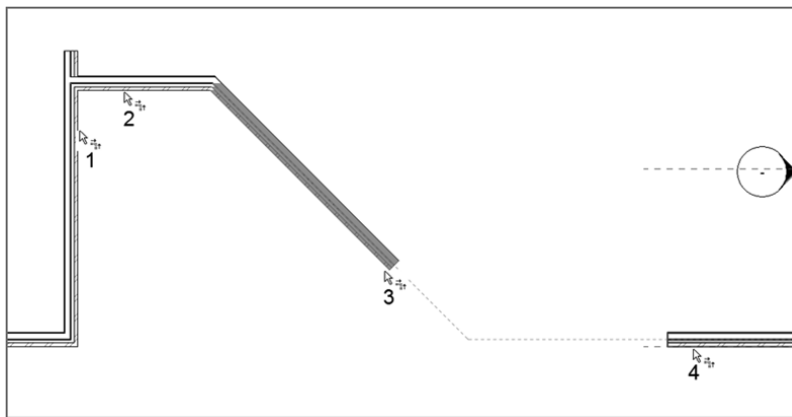

FIGURE 2.15: Using the Trim command to join the corners
2. The next step is to select the walls in the sequence and in the spots shown in Figure 2.15.